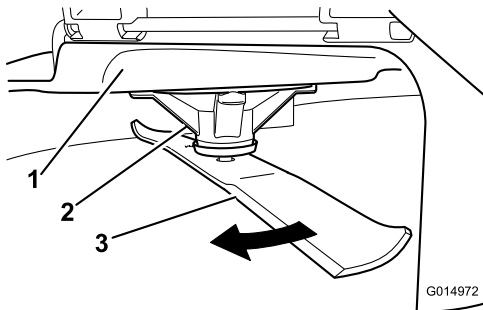

Figure 63
2. While wearing thickly padded gloves, or other adequate hand protection, slowly rotate the blade into a position that allows you to measure the distance between the cutting edge and the level surface the machine is on (Figure 63).